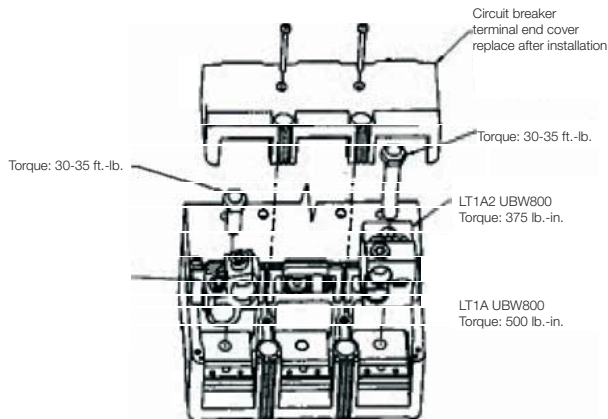

Figure 3: terminal installation
5. If not already installed, mount wire connecting terminals as shown in Figure 3. Secure the terminals to the circuit breaker using the provided 1/2 in bolts and lock washers. Torque to 30 to 35 lb.-ft. (40.68 to 47.46 N.m). With the circuit breaker